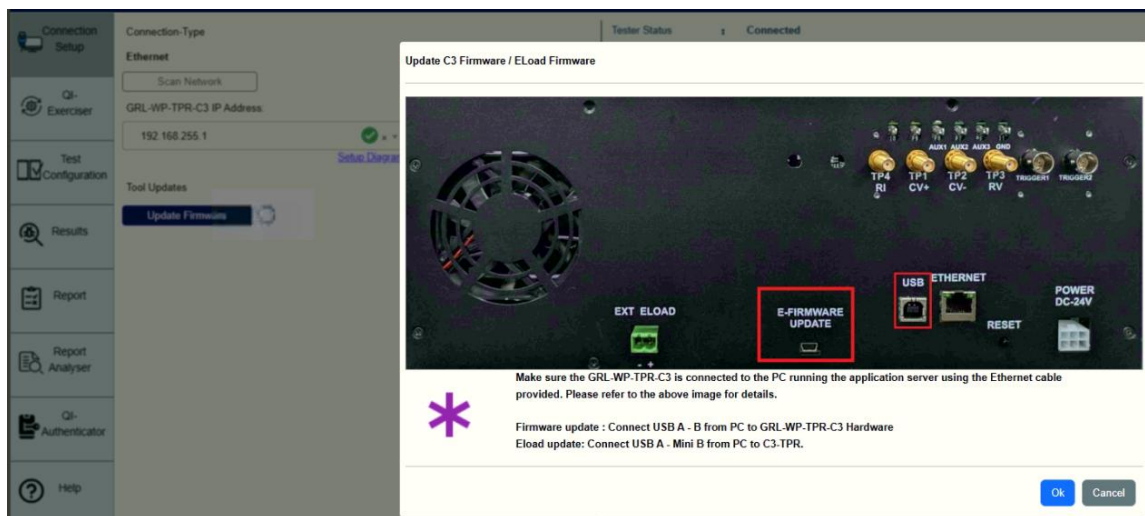

FIGURE 7.3: UPDATE GRL-C3 FIRMWARE- #1
1. Click on the **Update Firmware** button and the following pop-up message will appear (Figure 7.3 below). Using a standard USB Type-B cable, connect the USB Type-B port (for firmware update as indicated in the image) at the back of the GRL-C3 tester hardware to the control PC (where the GRL-C3 application is running). When connected, click “Ok” to proceed.